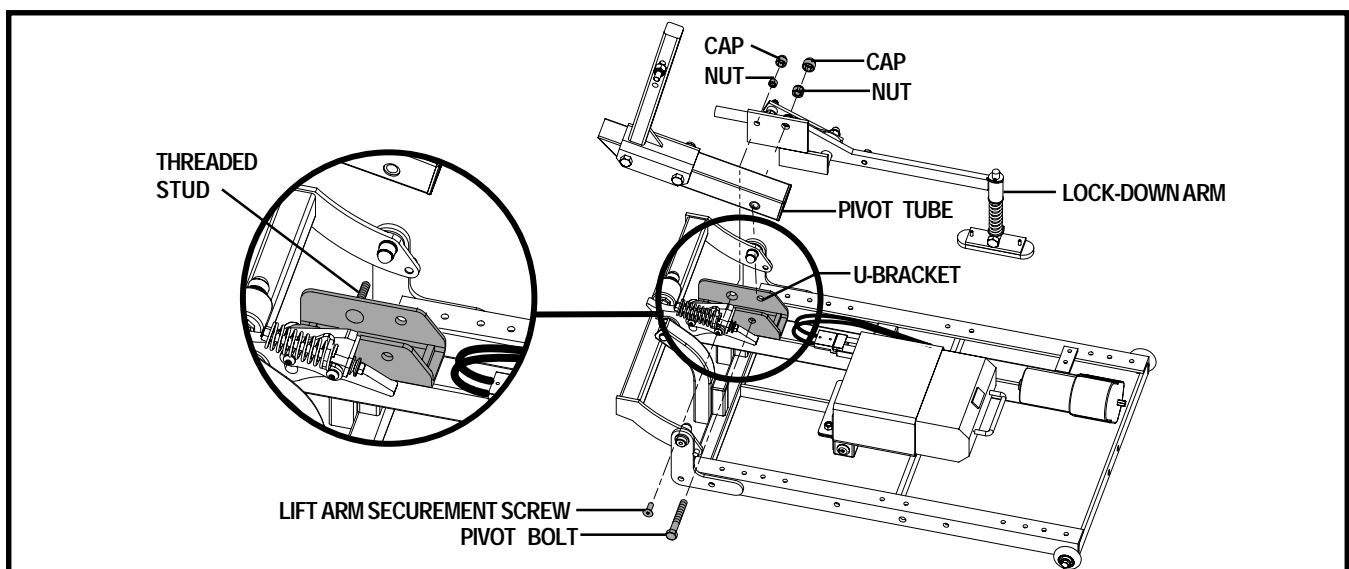

Figure 4. Lock-Down Arm Installation
NOTE: *If your lift system is equipped with a permanent threaded stud, removal of the pivot tube and pivot bolt is not necessary for lock-down arm installation. See figure 4.*
2. Apply power to the lift until there is enough clearance to remove the pivot bolt. See figure 4.
4. Remove the pivot tube. See figure 4.